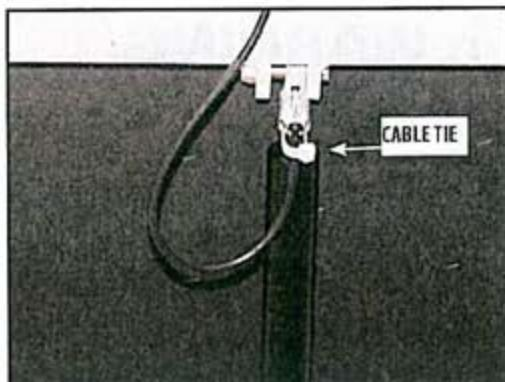

FIGURE 5.2
1. Using wire cutters, remove the cable tie, securing the position of the cable attached to the Gas Spring. **Refer to Figure 5.2.**